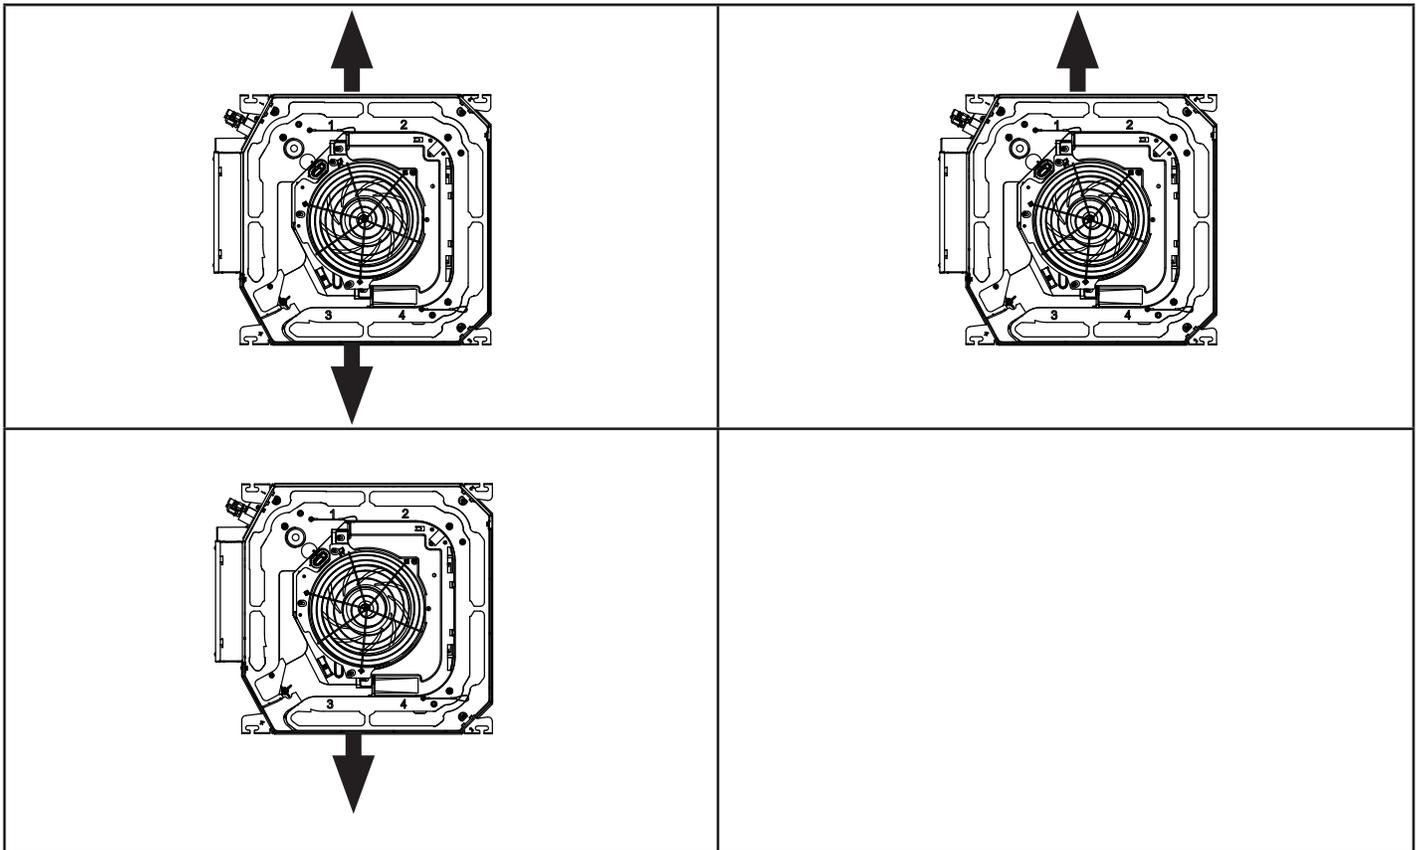

Figure 18. Possible Air Flow Patterns
Supply air is typically provided from all four sides of the cassette unit. See Figure 18.
1. Identify and measure the supply air opening that will be blanked off. See Figure 18.